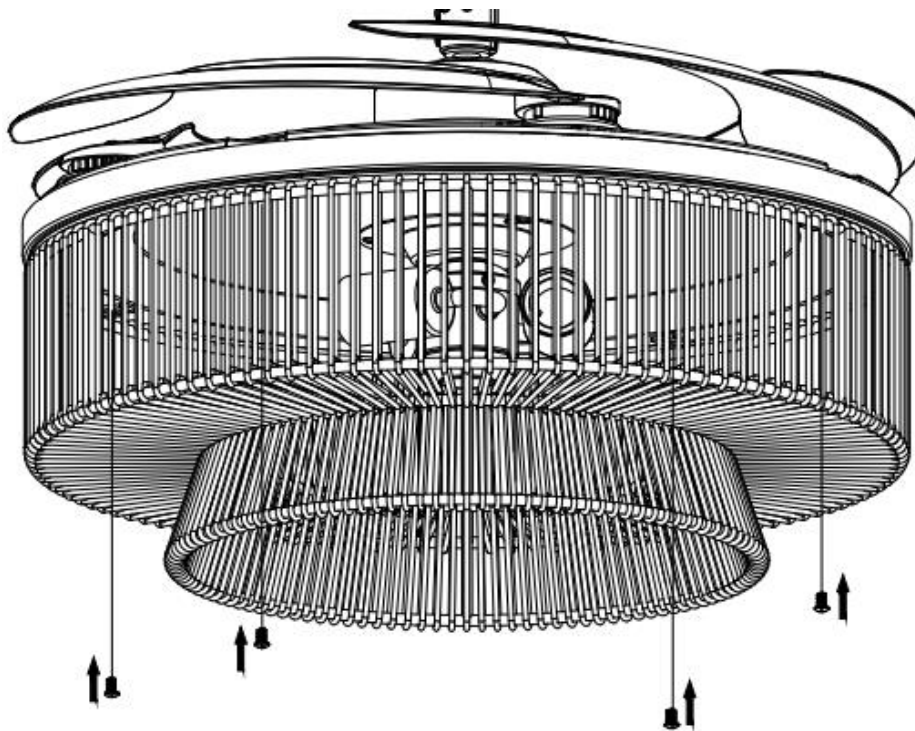

Fig. 9
6. Secure the lamp shade to the light kit bracket plate by tightening the 4 screws. Do not over-tighten. (Fig. 9)